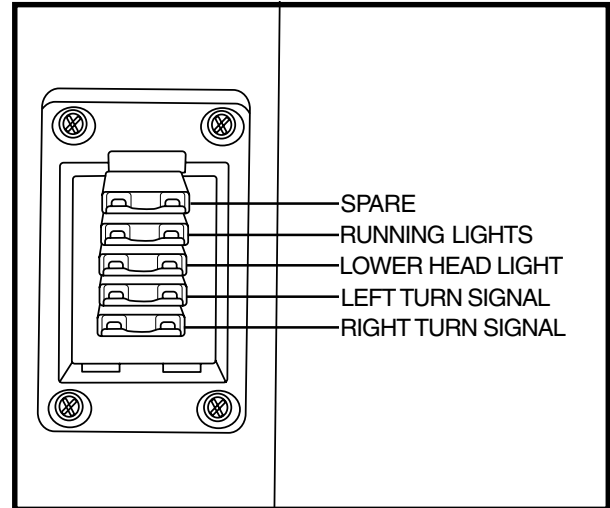

Figure 6. Tiller Console Fuses
These fuses help protect your scooter's front lighting, turn signals, and key switch console systems from receiving an overload of electrical current. The fuses used in your scooter are the same type used in automobiles. See figure 6. See IX. "Care and Maintenance" for fuse replacement.
4. Plug the 3-pin charger power cord into the off-board charger port. See figures 6 and 12.